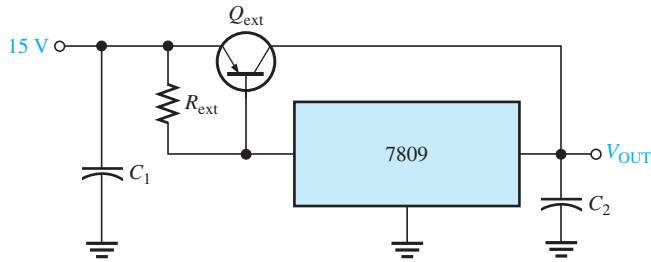

FIGURE 11–48
23. With no load connected, how much current is there through the regulator in Figure 11–46? Neglect the adjustment terminal current.
25. In the regulator circuit of Figure 11–48, determine R_{ext} if the maximum internal regulator current is to be 250 mA.
26. Using a 7812 voltage regulator and a $10\ \Omega$ load in Figure 11–48, how much power will the external pass transistor have to dissipate? The maximum internal regulator current is set at 500 mA by R_{ext} .
27. Show how to include current limiting in the circuit of Figure 11–48. What should the value of the limiting resistor be if the external current is to be limited to 2 A?